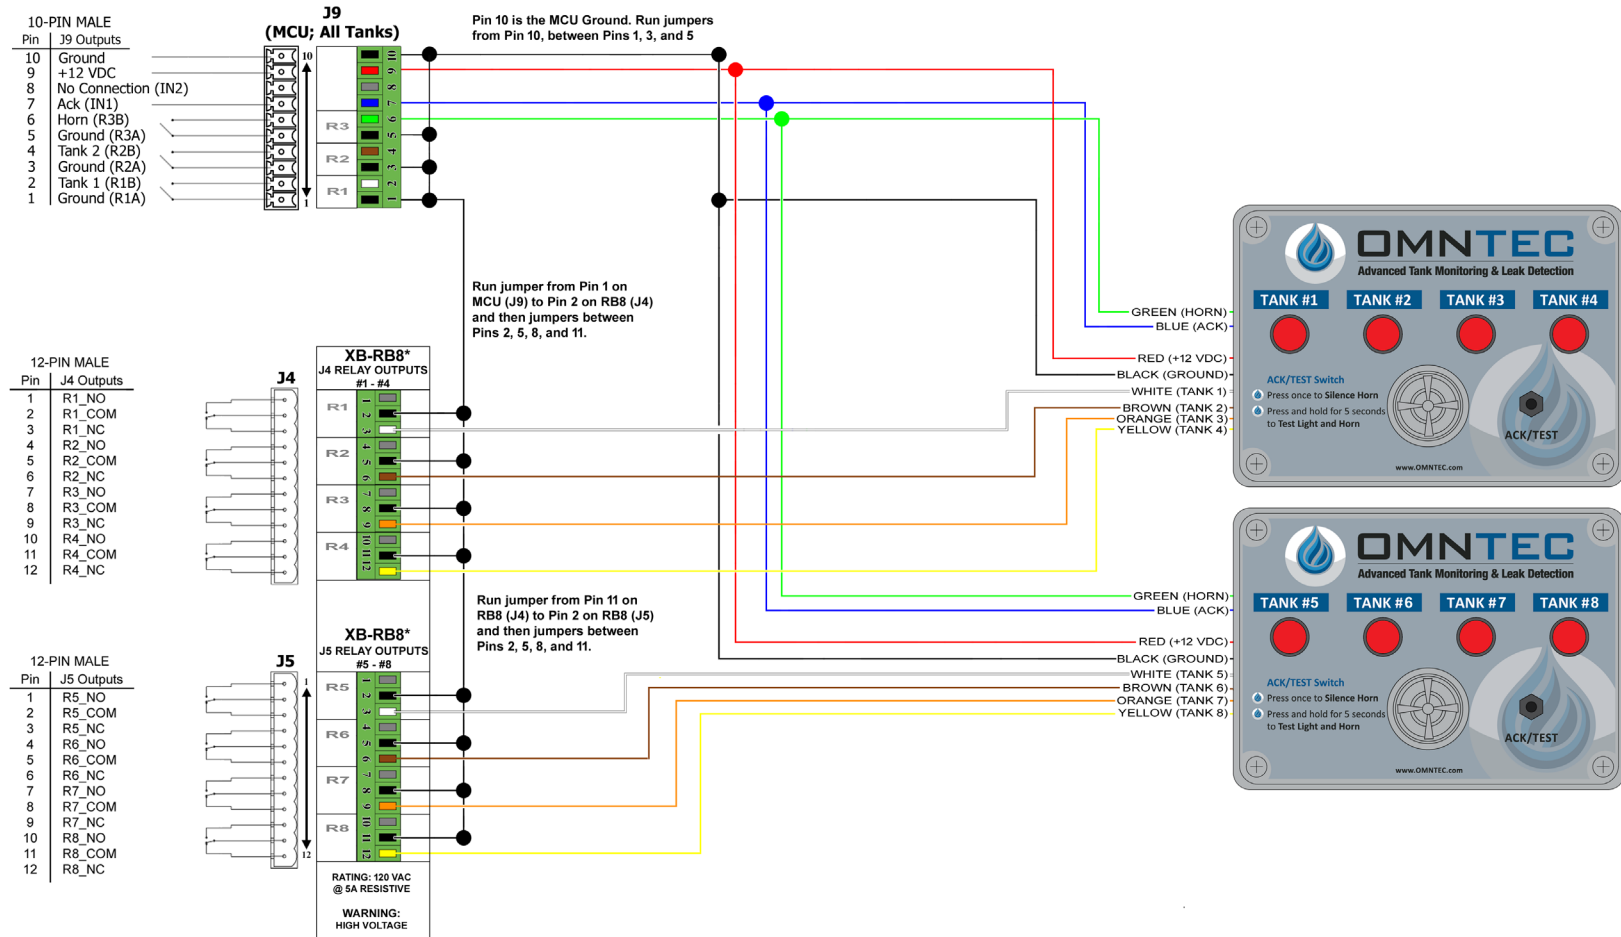

Figure 2.3.4
3.3. RAS-3 and Up High-Level Alarm Wiring (refer to Figure 2.3.4) *Same applies when using (2) RAS-1-NYS*